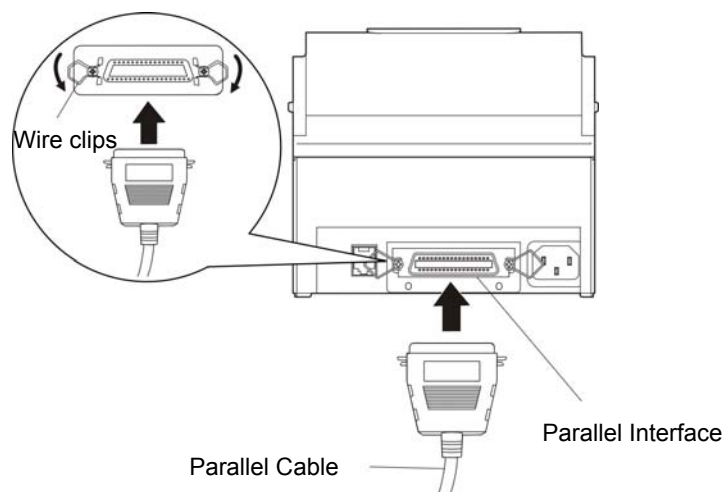

Figure 2-3 Connecting the parallel cable
1. Make sure that the computer and the printer are both turned off, connect the parallel cable to the parallel interface of the printer, and squeeze the wire clips on both sides of the connector to make the cable fixed. (As shown in Figure 2-3)